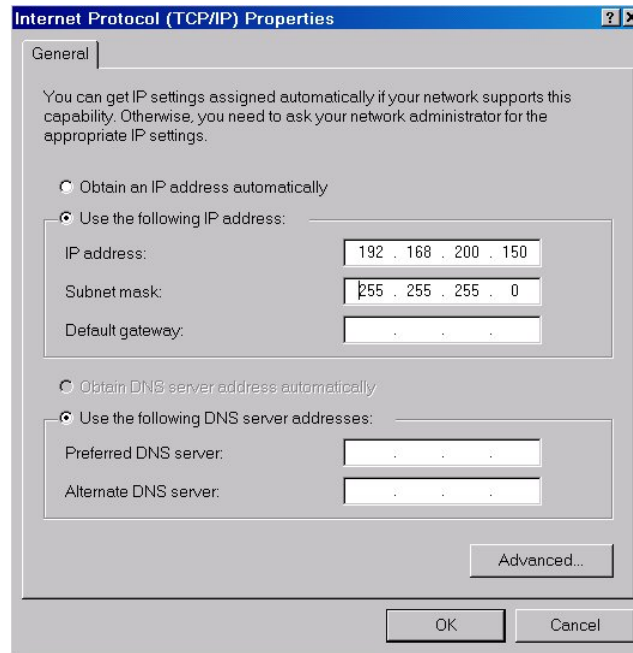

Fig. 5-2 – Changing the IP address
- The window shown in Fig. 5-2 appears, in which you have to select *Use the following IP address*.